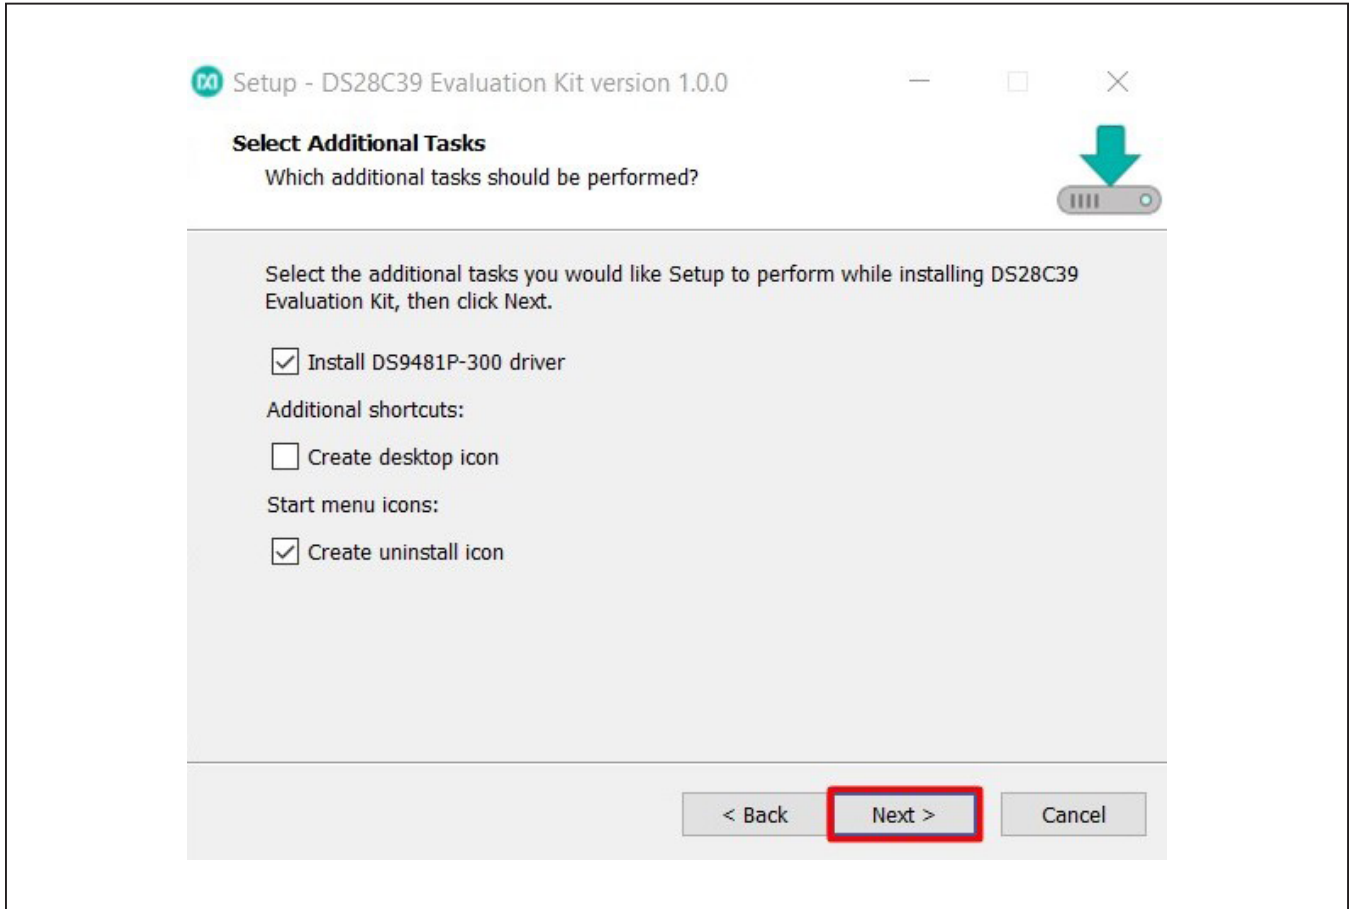

Figure 4. Select to Install the Driver
- 5) Unplug any Maxim adapter and click on **Next**, with the default settings checked. This selects and installs the DS9481P-300# driver, which is needed to communicate through the USB via a virtual COM port (Figure 4).